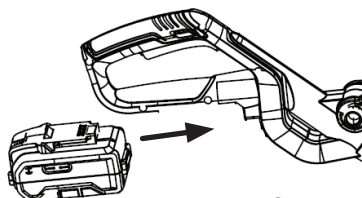

FIG 8
## INSTALLING OR REMOVING THE BATTERY PACK (FIG 8)
- To install the battery pack, slide the battery pack onto the bottom of the rear handle all the way until it locks in place with a click, as shown in FIG 8. Lightly pull on the battery to ensure it is locked into place and will not accidentally fall out of the product.